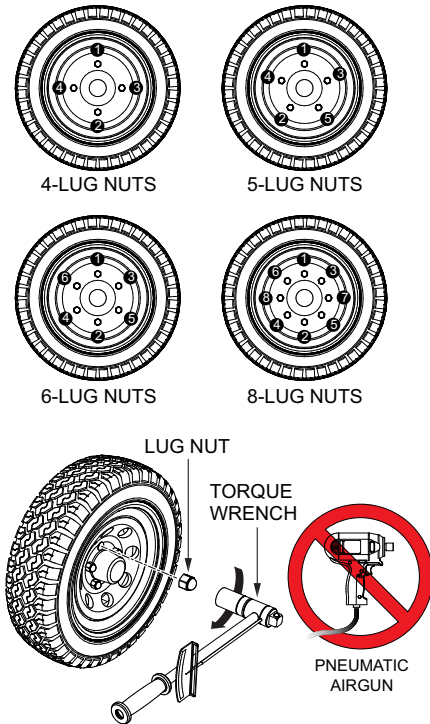

Figure 42. Wheel Lug Nuts Tightening Sequence
2. Torque all lug nuts in sequence. See Figure 42. **DO NOT** torque the wheel lug nuts all the way down. Tighten (torque) each lug nut in three separate passes as defined by Table 11.